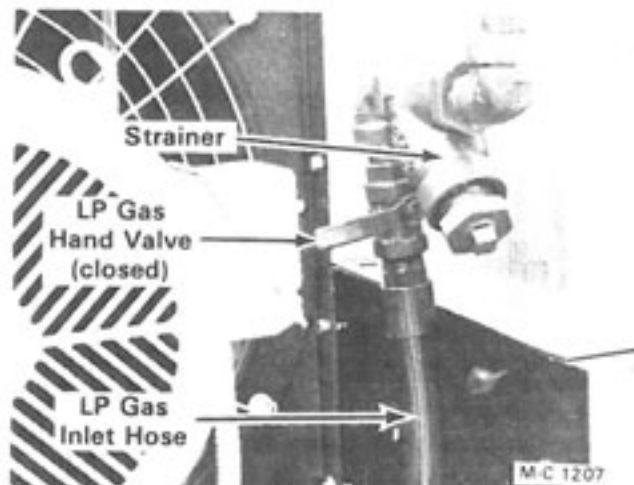

Figure 7 - LP Gas
3. **LP Gas** - Open the supply valve at the tank, the hand valve at the LP Gas inlet line and open (lift up) the liquid line flip valve on each burner, see Figure 7 and 8. The flip valve is open when the handle is 90°F to the piping.